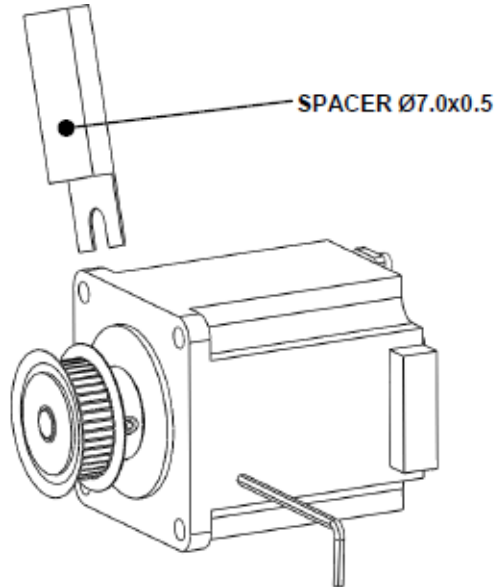

Figure Q-15: Locate the Pulley on the Reagent Pipettor X Drive
2. Locate the Pulley in the right position on Reagent Pipettor X Drive using the Spacer $\varnothing 7.0 \times 0.5$ (P24FIX003) and tighten the Set Screws. NOTE: Install the Set Screws firmly. The cone of each Set Screw must pierce the motor shaft for a strong fit (Figure Q-15).